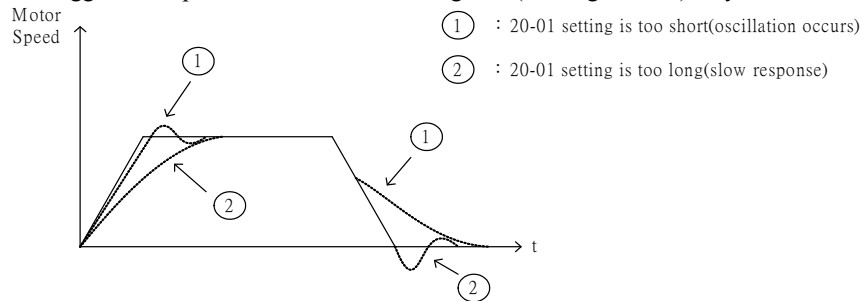

Figure 4.3.154 ASR Integral Time Response
- Integral control helps the motor reach the target speed more quickly but may cause overshoot or oscillation, as shown in Figures 4.3.154 and 4.3.155.